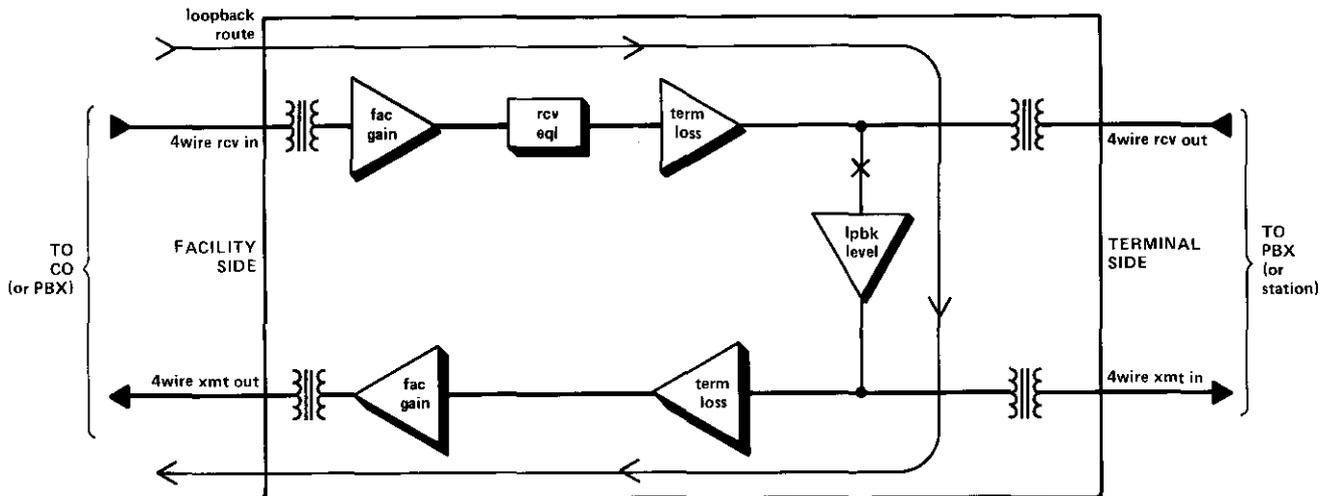

figure 8. Loopback route through 6047A
2.24 Integral facility-side loopback circuitry in the 6047A allows signals at the 4wire receive input port to be looped back to the 4wire transmit output port for testing of both the module and the facility. Figure 8 shows the loopback path through the module. Prescription loopback-level-control circuitry introduces from 0 to 23dB of gain or loss into the loop-back path in switch-selectable increments (23dB loss; 0.5, 1.5, 3, 6, and 12dB gain) to provide true equal-level loopback. A switch option buses out the terminal equipment during loopback, if desired, to prevent inadvertent seizure of the trunk circuit or line circuit. **This option can only be used, however, with A-side signaling and Type I E&M interface.** In such applications, the option buses out the terminal equipment by grounding the E lead.